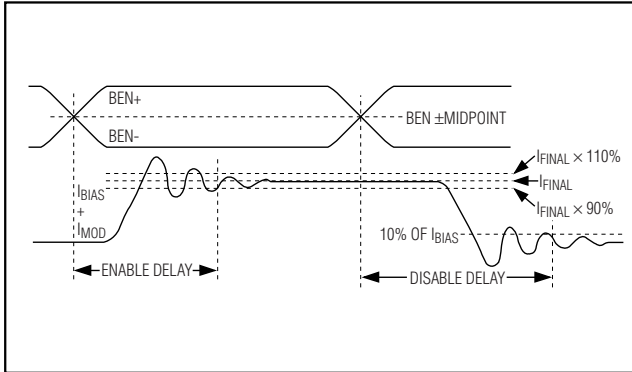

Figure 1. Enable and Disable Delay Times
Note 11: Enable delay is measured between (1) the time at which the rising edge of the differential burst enable input signal reaches the midpoint of the voltage swing, and (2) the time at which the combined output currents (bias and modulation) reach 90% of the final level set by $RAPCSET$, $RBIASMAX$, and $RMODSET$ (after all transients such as overshoot, ringing, etc., have settled to within 10% of their final values). See Figure 1. Measurement done for $10mA \leq I_{MOD} \leq 85mA$ and $4mA \leq I_{BIAS} \leq 70mA$.
Note 12: Disable delay is measured between (1) the time at which the falling edge of the differential burst enable input signal reaches the midpoint of the voltage swing, and (2) the time at which the combined output currents (bias and modulation) fall below 10% of the bias on current (after transients have settled). See Figure 1. Measurement done for $10mA \leq I_{MOD} \leq 85mA$ and $4mA \leq I_{BIAS} \leq 70mA$.